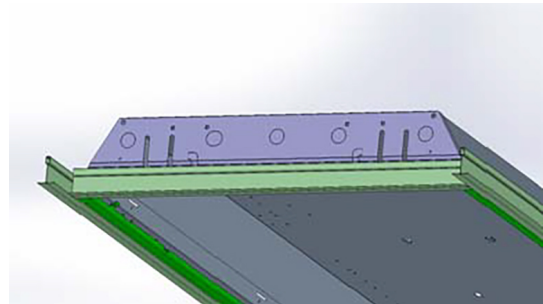

Fig. 1.3
4. With the provided self tapping screws mount universal frame bracket into the existing fixture (Fig.1.3).